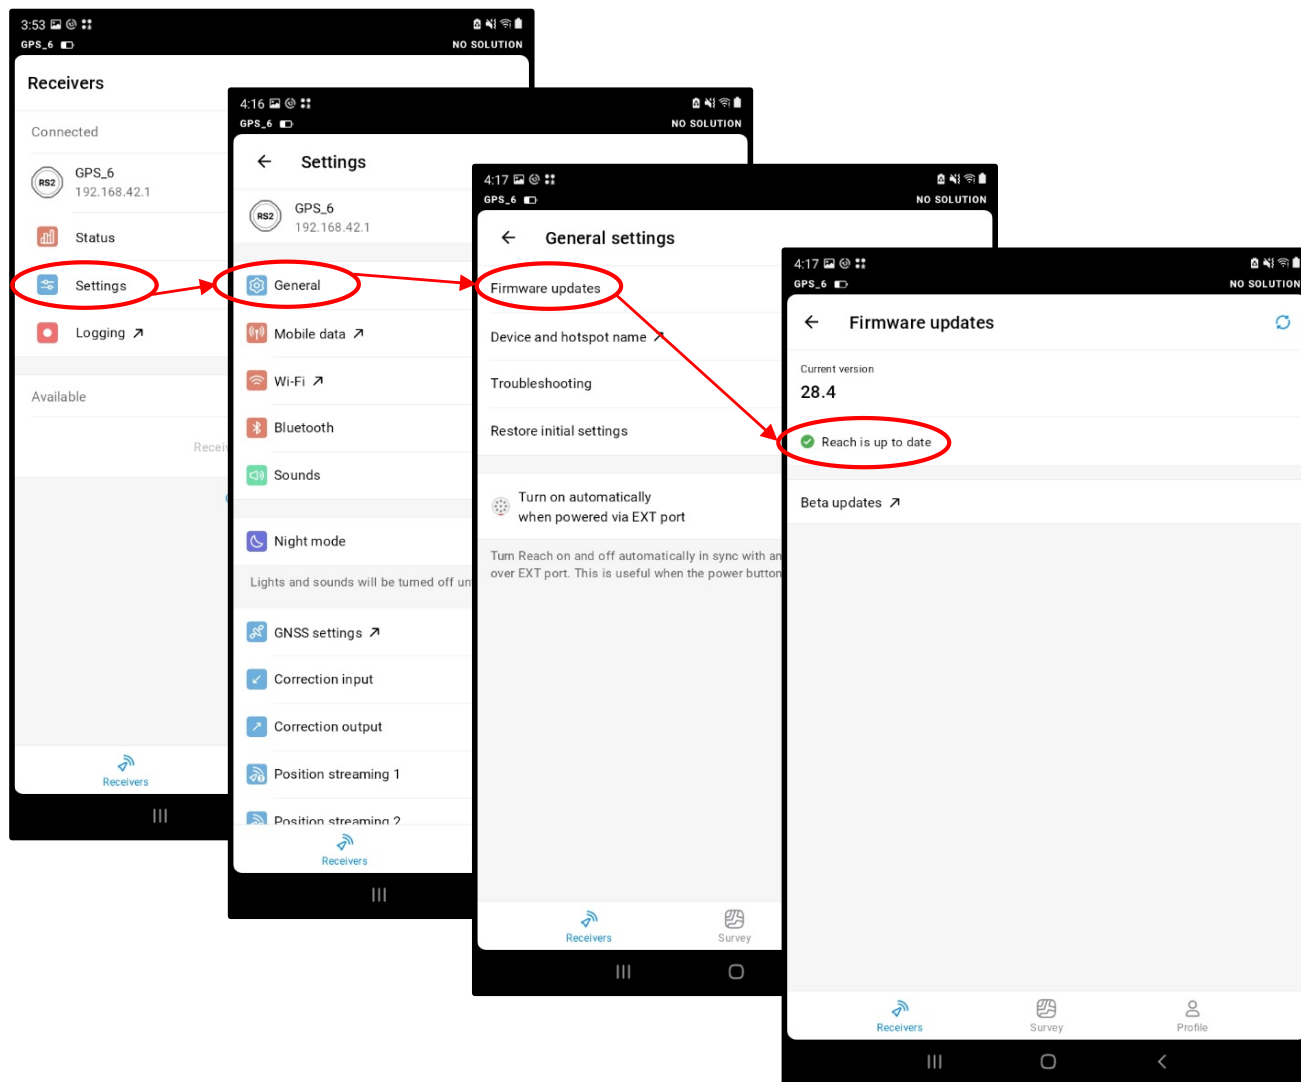

Figure 20. Figure showing ReachView 3 workflow for updating firmware with red circles and arrows showing the workflow.
5. Check for updates to Emlid GPS firmware (Figure 20)